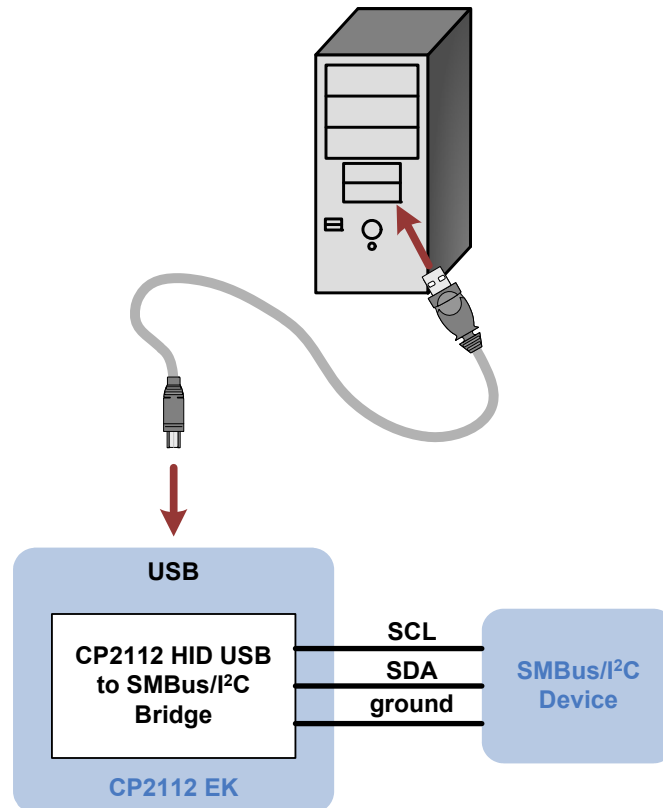

Figure 1. Hardware Setup
1. Connect the CP2112 evaluation board to a PC as shown in Figure 1.
1. Ensure that the hardware is connected to a Windows PC as shown in Figure 1. If the device is properly connected, the red SUSPEND LED on the CP2112 evaluation board will turn on.
- Updated Figure 1.